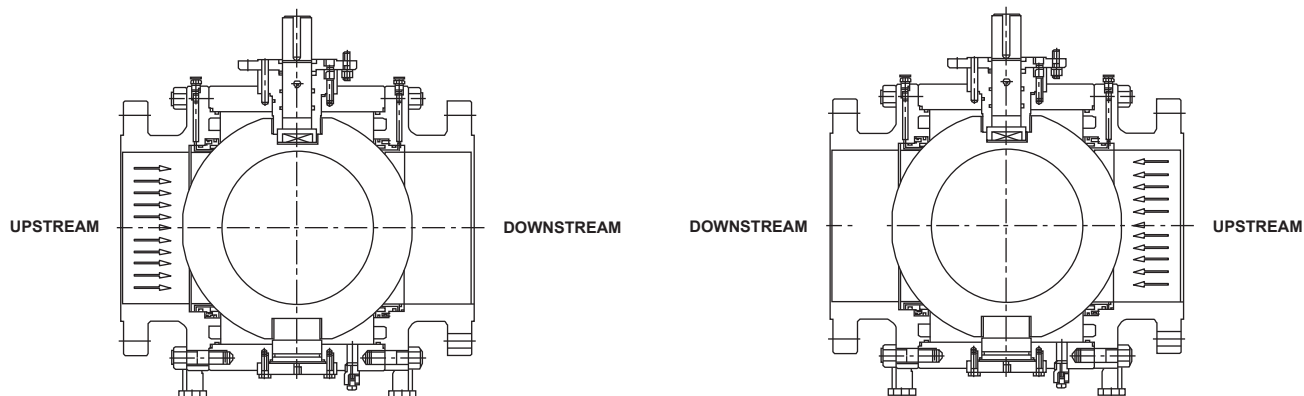

Figure 2. Two-way Valve Schematic
- **Two-Way Valve**— Tartarini™ Trunnion Mounted Valve has two seats that can be sealed on two directions providing bi-directional flow. See Figure 2.